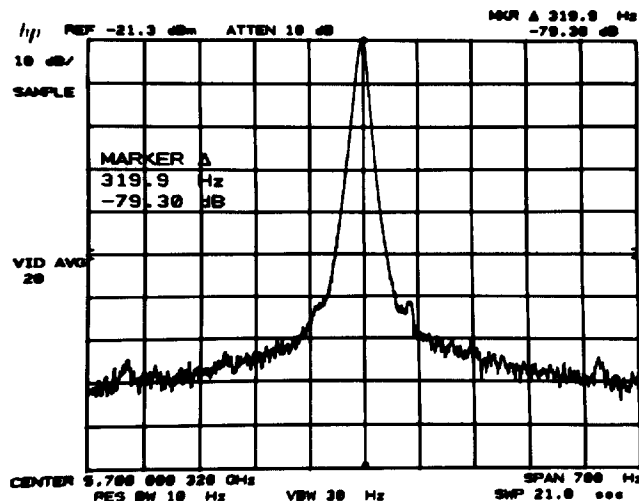

FIGURE 23. NOISE SIDEBANDS MEASUREMENT
9. Press **MARKER** **PEAK SEARCH**, **Δ** and key in 320 Hz. Record the MARKER Δ amplitude: _____ dBc. See Figure 23.